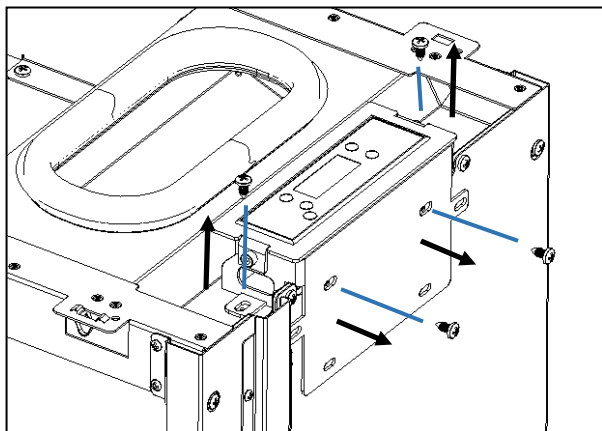

Figure 47 - Removing the display on the machine
a) Before beginning with the assembly of the casings you must remove the display stand from the equipment by loosening the four screws shown in Figure 47.